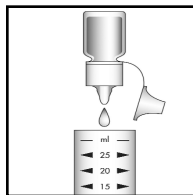

Figure 1
2. Add **5 drops** of A-2800 Acidifier Solution (fig 1). Stir briefly to mix the contents of the cup.